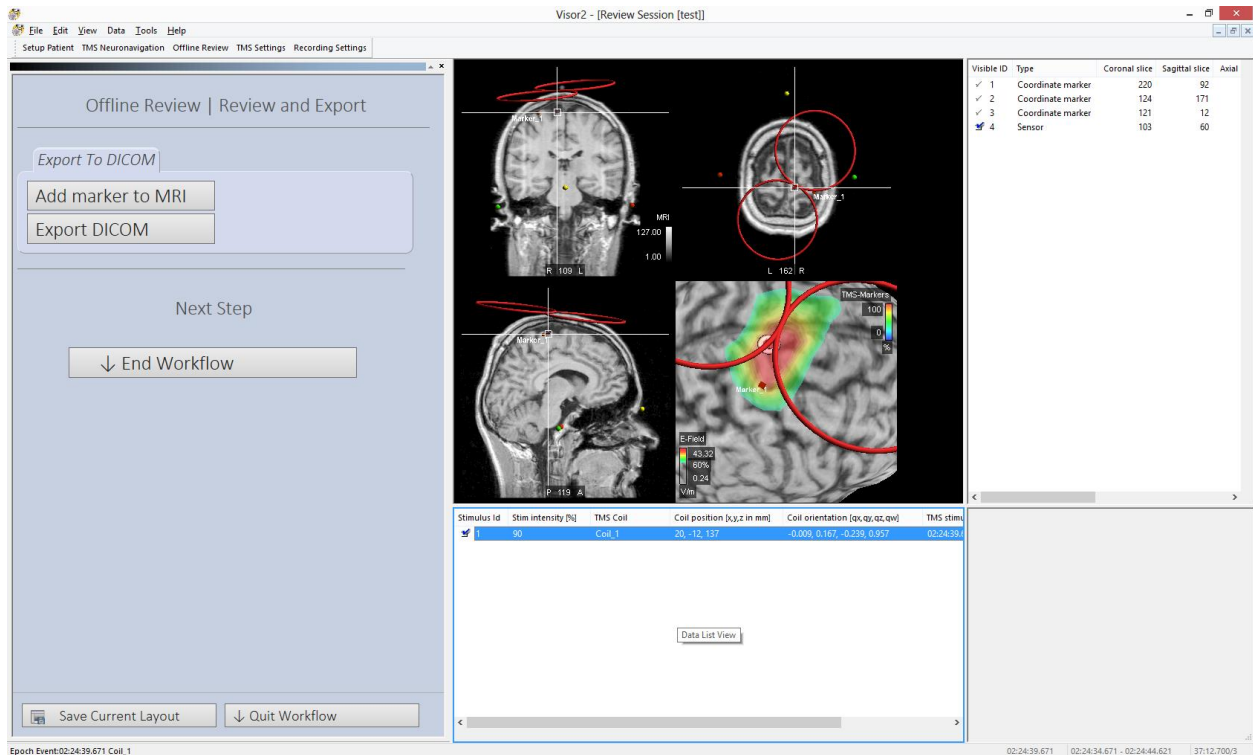

FIGURE 47: OFFLINE REVIEW FOR NEURONAVIGATION SESSION WITHOUT EMG
If a TMS session without EMG is reviewed, the view simplifies to display the stimuli with the stimulator output intensities, see Figure 47. The TMS Stimulus list presents:
1. Position the crosshair at the location where you wish your image marker to be placed. If you want to place the image marker over a TMS Marker, select the TMS Marker in the list. The position of the crosshair will be adjusted according to your selection, as displayed in Figure 47.